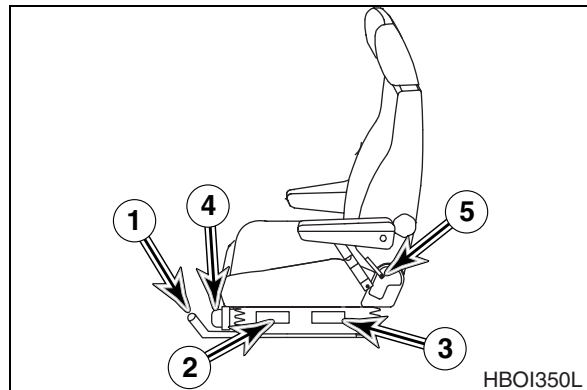

Figure 96
Holding lever (3, Figure 96), raise it up, while pushing or pulling seat to desired position. Release lever once desired position is reached. Adjustment range is 160 mm (6.3 in).
Pulling left lever (3, Figure 96) up allows rear part of seat to be moved up or down. Pulling lever (2) up allows front part of seat to be moved up or down. Adjust seat according to operator's size and work conditions. Adjustment range is 60 mm (2.36 in) for both front and rear.
Turning knob (4, Figure 96) to right makes suspension harder. Turning knob to left makes suspension softer. Adjust according to operator's weight by checking weight indicator dial. Adjustment range is from 50 - 120 kg (110 - 265 lb).
Pulling up right lever (5, Figure 96) allows seat backrest to be moved forward or backward.